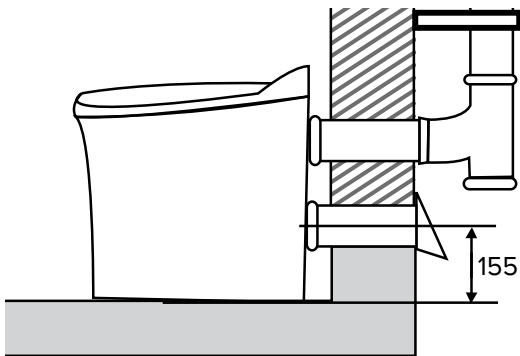

fig. 2
3. Install one of the enclosed short vent pipes with the conical/bevelled end towards the Cinderella - see fig. 2 and 3. Make a mark about 40 mm from the end of the pipe, in order to tell how far into the toilet the pipe should be pushed.